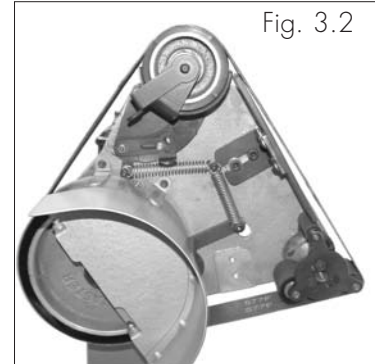

Fig. 3.2
1. Open all guards on the machine as in fig 3.2.